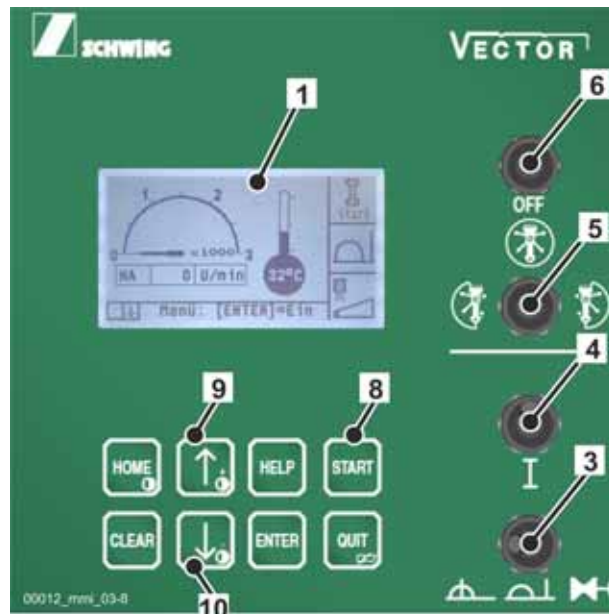
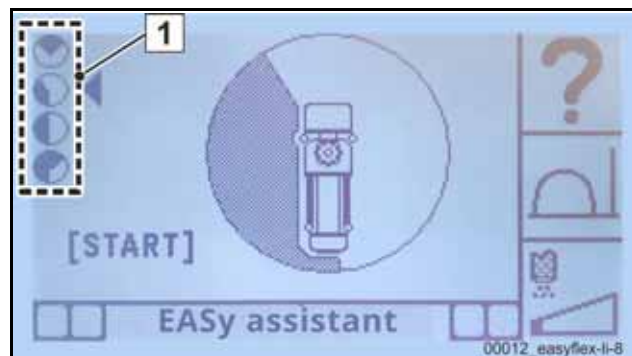

Fig. 420 Control panel of the VECTOR control.
Fig. 421 Example: Selection of EASy "left" variants
The display (1) (**Fig. 420**) and the buttons (8) to (10) are familiar elements from the VECTOR control system and also play a role for EASy-flex:
The buttons (9 + 10; **(Fig. 420)**) are required in order to select the EASy variant (1; **(Fig. 421)**) when the machine is equipped with EASy-flex.
- or EASy-flex, by selecting a work area ((**Table 12**); column 1 or 3) using the selector switch (5; (**Fig. 420**)).
Move the selector switch (5) (**Fig. 420**) to centre position:
- Confirm the selection of full support with the "OFF" button (6; (**Fig. 420**)).